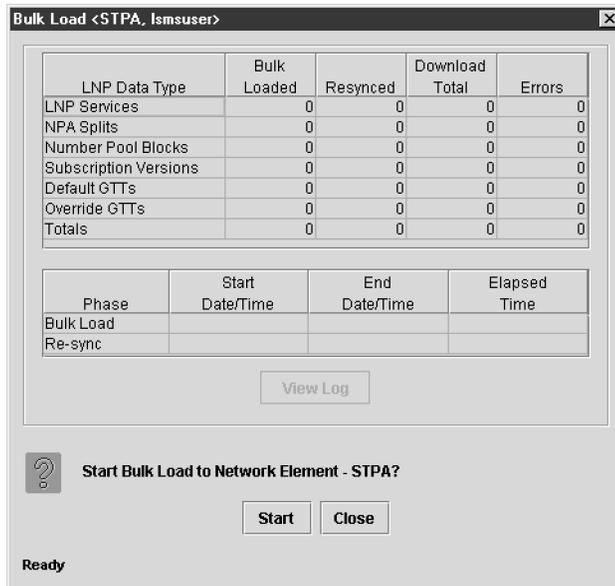

Figure 64: Bulk Load Window
- The **Bulk Load** window displays. An example of this window is shown in Figure 64: Bulk Load Window.